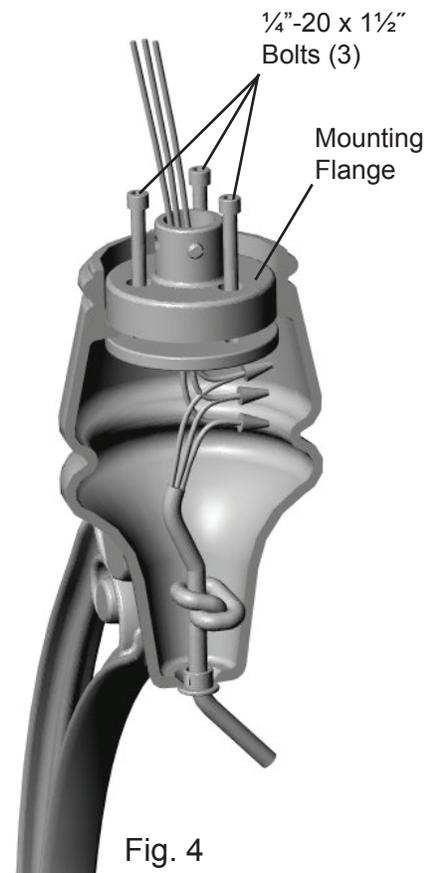

Fig. 4
6. Pull the black power cord down through the Motor Assembly until the wire connectors are inside the Motor Assembly housing (Fig.4).
7. Insert the 3 wires through the center of this disc. Then, holding the rod, at an angle feed the disc through the 2 slots in the large opening in the Motor Assembly. Once through the slots pull the disc so that it sits flat against the underside of the lip (Fig. 4).
9. In the other 2 bolt holes loosely thread two 1/4-20 x 1 1/2" allen head bolts into the disc (Fig. 4)
4. The Motor Assembly may be oriented to the desired position by loosening the 3 ¼-20 x 1½" bolts located at the top of the mounting flange (Fig. 4) and rotating the Motor Assembly. Be sure to retighten all 3 bolts.